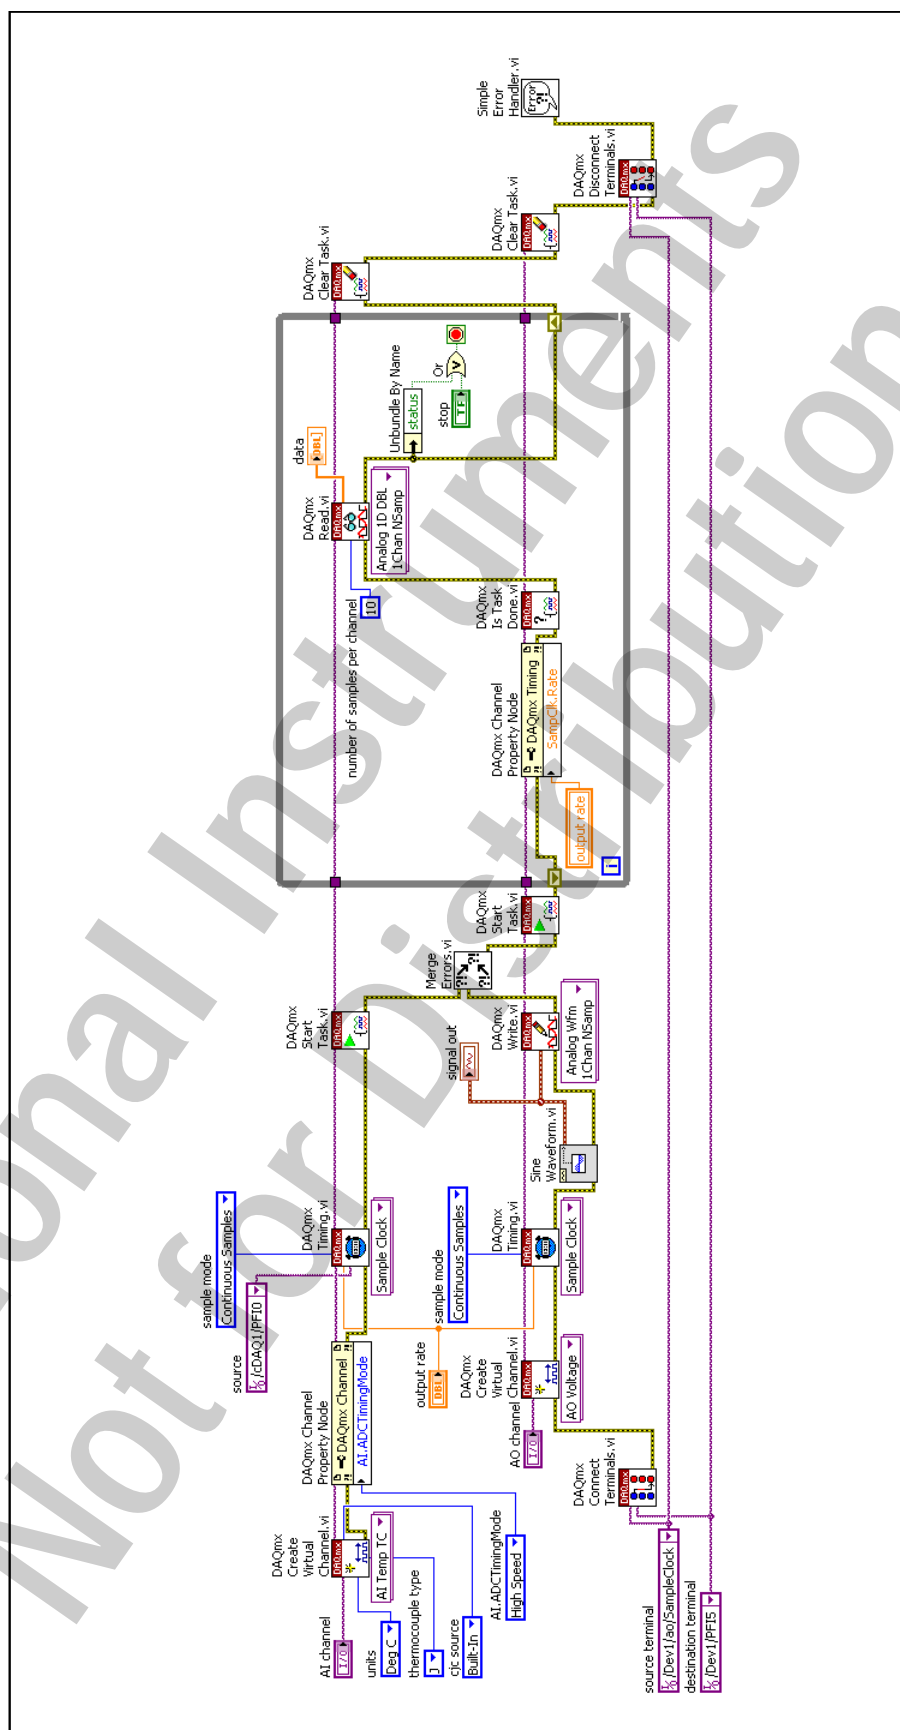

Figure 8-4. Multi-Device Synchronous AI and AO VI Block Diagram
3. Modify the block diagram, as shown in Figure 8-4, to share the analog output sample clock on the Dev1 DAQ device with an analog input thermocouple task on the cDAQ device using the following items: